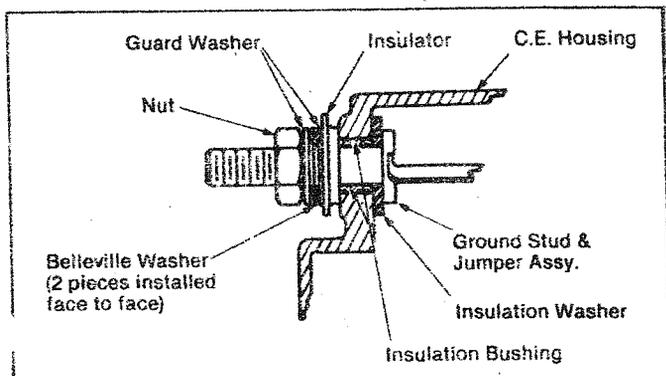

Figure 28
- Install insulation washer, guard washers, belleville washers, and nut on ground stud as shown in figure 28. Torque to 23-27 lbs. ft.